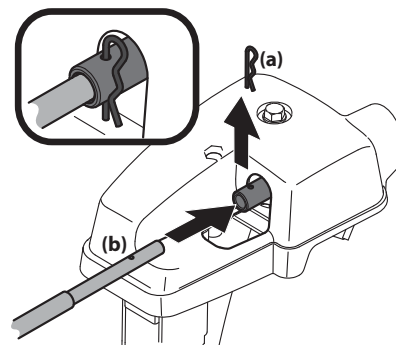

Figure 2-37
4. Remove hairpin clip (a) from rear of chute control assembly. See Figure 2-37.
5. Insert flex shaft (b) removed during Handle Assembly from lower handle into rear of chute directional control head. See Figure 2-37. Secure flex shaft to chute control head with hairpin clip (a) removed in Step 4.